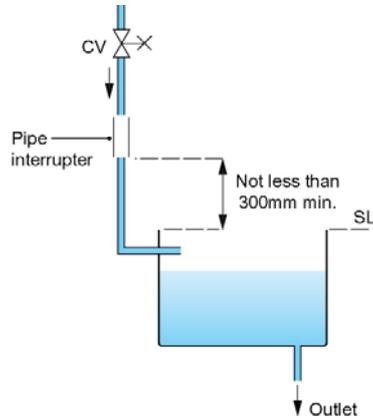

Figure: 2 Installation of the type DC pipe interrupter
- (b) at each point of use, by using either break tanks and air gaps as above or by a type DC pipe interrupter permanently attached to every tap outlet. Pipe interrupters cannot have any flow restriction, valve or tap on their outlets, which may make their use impractical for some purposes because of lack of water pressure. They must be fitted with the lowest point of the air aperture not less than 300 mm above the free discharge point or spillover level of the receiving vessel or appliance (see Figure 2).